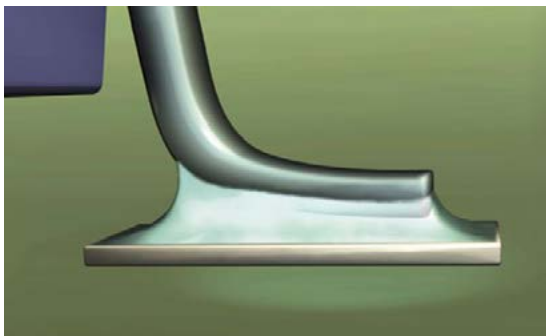

Figure 16: Image of toe, heel and side.
7. Solder joint goals for toe, heel and side (Figure 16)